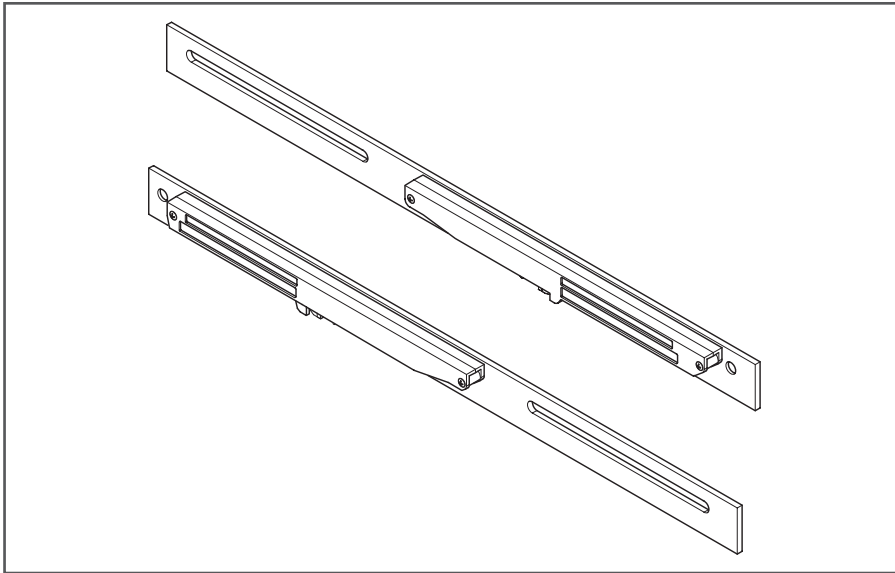

Figure 1
1. Inspect Soft Close Mechanisms (A and B) to ensure there is a left and right assembly (Figure 1). Set aside.